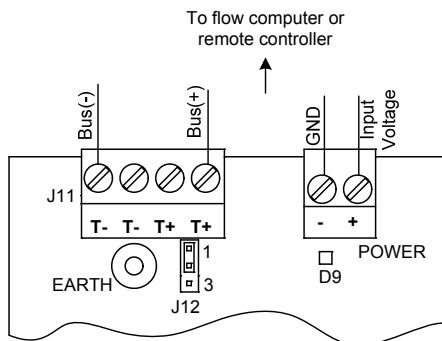

Figure 15: Wiring for communication: new board as the only sensor
- a. If the unit is the only unit connected to a flow computer or remote controller wire as shown in Figure 15.